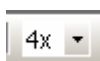

Figure 9-9 Speed Control drop-down list
- Select a speed in **Speed Control** drop-down list, as shown in Figure 9-9.